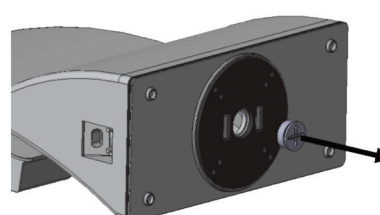

Fig. 6
7. Use a flat head screwdriver to unscrew the cap from the back of the driver box mounting plate (**Figure 6**).